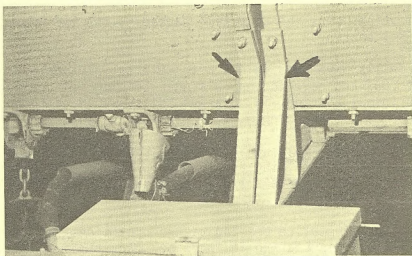

Figure 12. Seed box angle braces
5. Installation of seed box angle braces (Figure 12). These braces are installed from the top of the seed box support to the drill frame at the front center of the machine.